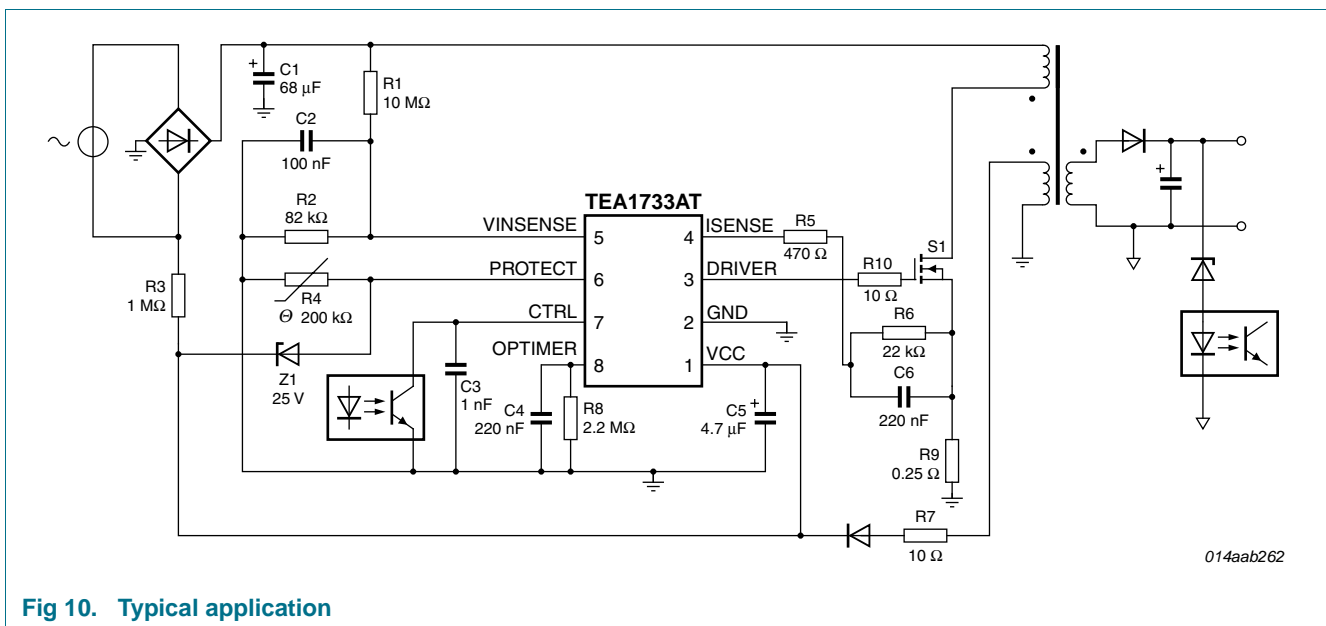

Fig 10. Typical application
A power supply with the TEA1733AT is a flyback converter operating in Continuous conduction mode (see Figure 10).
In the example shown in Figure 10, the PROTECT pin is used for OVP and OTP. The OVP level is set by diode Z1 to  $V_{CC} = 25.8$  V. The OTP level is set by Negative Temperature Coefficient (NTC) resistor R4. The VINSENSE pin is used for mains voltage detection and resistors R1 and R2 set the start voltage to about 80 V (AC). The overpower protection time is defined by capacitor C4 at 60 ms.